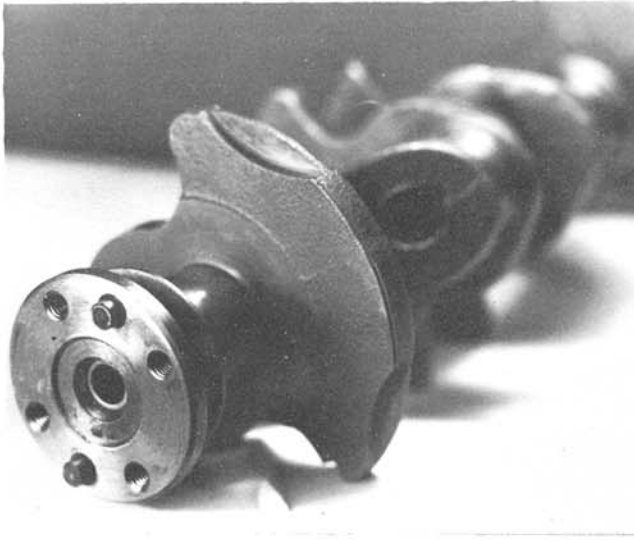

FIGURE 34. CRANKSHAFT
7. The crankshaft is scientifically heat-treated, so that the journals are subject to very little wear; it is normally safe to use old crank unless it is scored or cut from lack of lubrication (Figure 34).